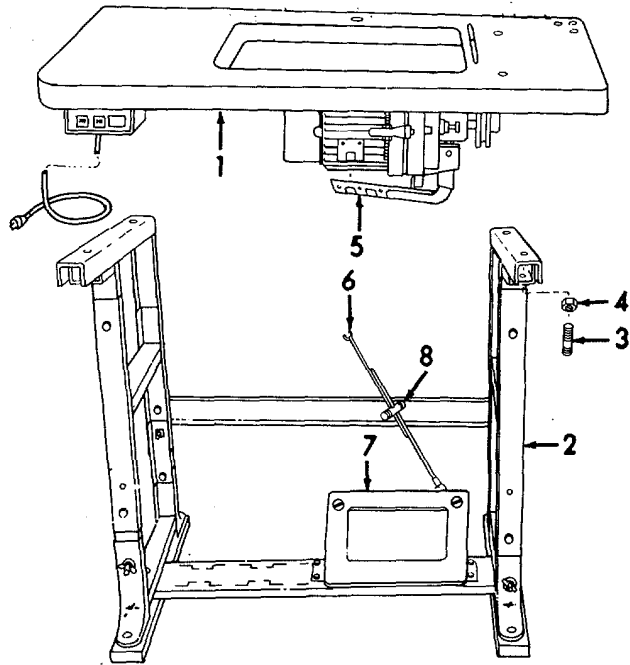

Figure 2-11. Darning Sewing Machine Table, Assembly.
(20) Install bobbin winder (3) to table (2) and secure with two wood screws (4). Adjust for 1/8 inch (3 mm) clearance between bobbin winder pulley and belt.
(21) Install thread unwinder base (5) to table (2) and secure with three wood screws (6).
(22) Install two posts (7), two flat washers (8), two nuts (9), and two pads (10) to cone rest (11).
(23) Install cone rest (11) bottom post (12). Secure the rest (11) by tightening the setscrew (13).
(24) Install thread guides (14) to top post (15) and secure with clip (16), washer (17), and wingnut (18).
(25) Install top post (15) to bottom post (12) and secure by tightening nut (19).
(26) Install bottom post (12) to unwinder base (5). Secure by tightening nut (20).
(27) Install sewing machine rest (21) to table (2).
f. Assembly of Darning Sewing Machine Table (Refer to Figures 2-11 and 2-12).
(1) Assemble the stand in accordance with paragraph 2-9e, steps (1) through (6).
(2) Refer to Figure 2-11. Install a sewing table top which is labeled 678HD (1) on stand (2).
(3) Start all four studs (3). Tighten studs (3) and then tighten all four nuts (4).